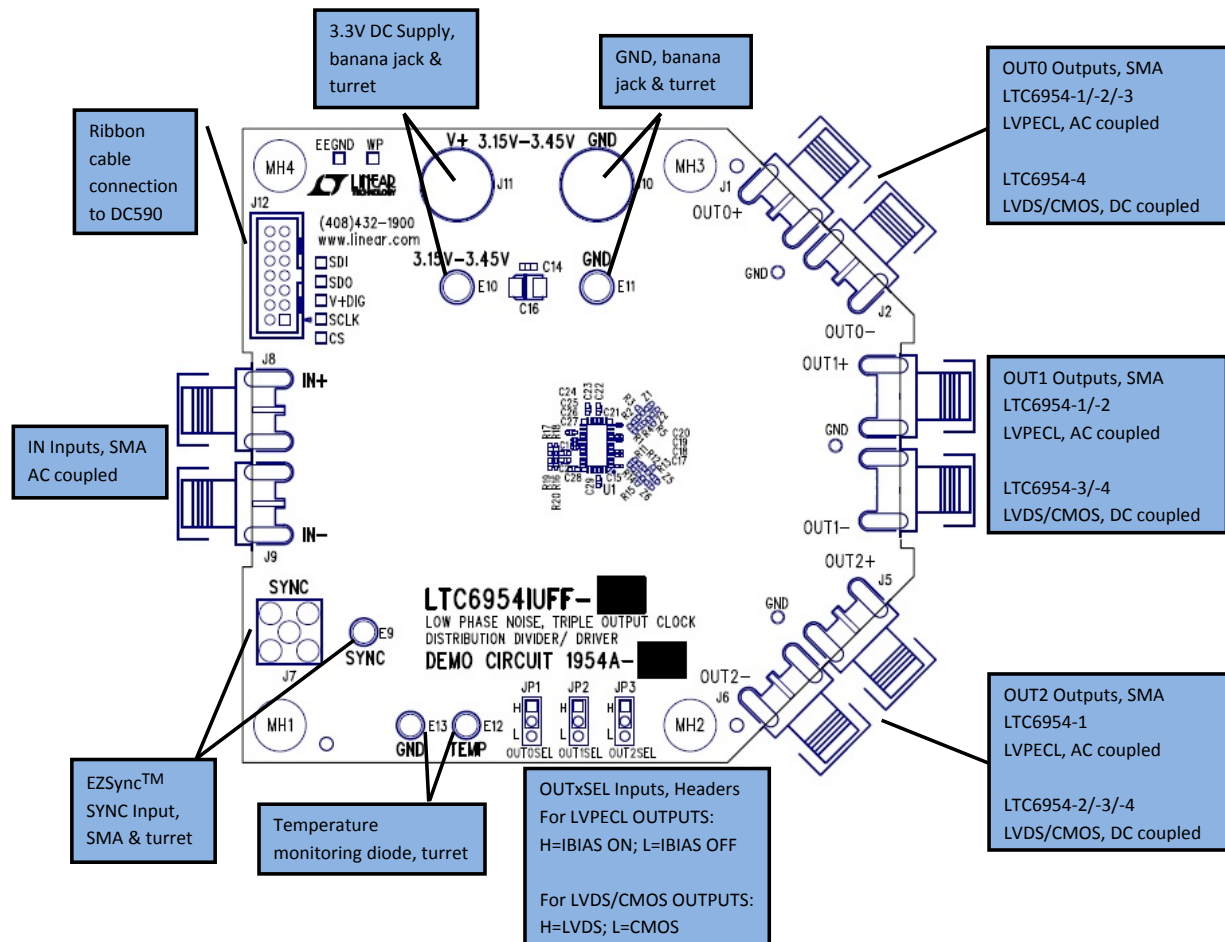

Figure 1. DC1954A Connections
1. Connect the GND and V+ 3.15V-3.45V, turrets to a power supply and apply power (see Figure 1 and the Typical DC1954A Requirements and Characteristics table).
| OUT0+, OUT0- | Two Outputs | J1 and J2 SMA Connectors* | Refer to Figure 1 or Table 1 for Output Type If LVPECL: AC-Coupled If LVDS/CMOS: DC-Coupled Refer to LTC6954 Data Sheet for Output Levels for LVPECL, or LVDS/CMOS Option |